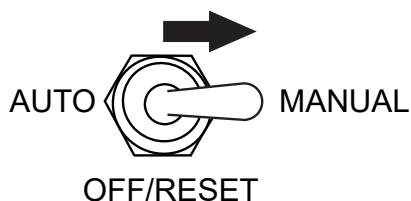

Figure 105. Auto Start/Stop Switch (Manual)
2. While keeping the **Hour Check Button** pressed, place the **Auto Start/Stop Switch** (Figure 105) in the **MANUAL** position.